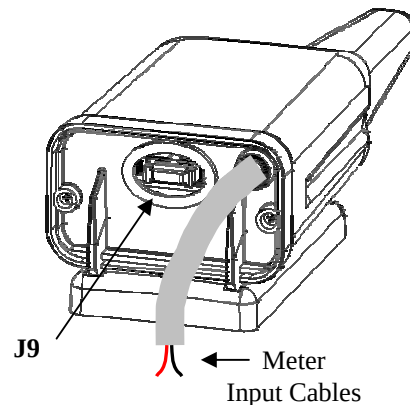

Figure 1: MT150W™ View
MT150W™ has one connector (see Figure 1).
1. **J9:** The 10-pin programming jack is a serial port to connect a PC or a FTU (see Figure 1).
4. Insert the terminator to J9 (See figure 1)